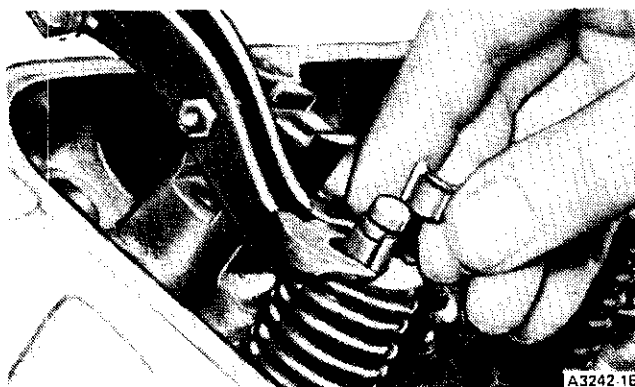

FIG. 38 Compressing Valve Spring
3. Compress the valve springs (Fig. 38). Remove the spring retainer locks and release the spring.
The oil filter assembly is shown in Fig. 38.